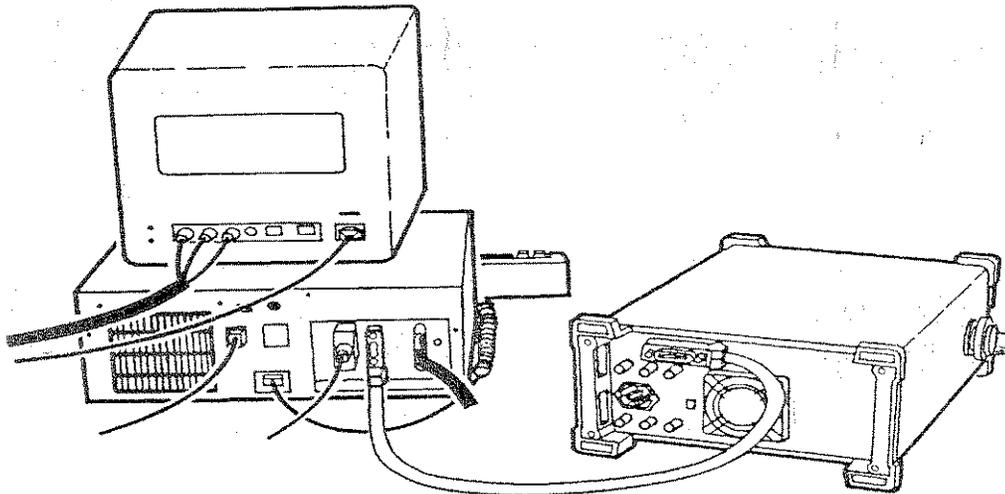

Figure 1-3
1. Connect the analyzer to the computer using the HP-IB cable as shown in Figure 1-3.